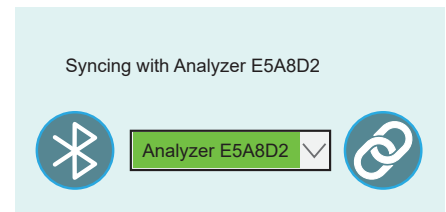

Figure 39. Analyzer syncing in progress
- **Syncing with Analyzer** followed by 'Bluetooth ID' will be displayed above drop-down menu. See Figure 39.